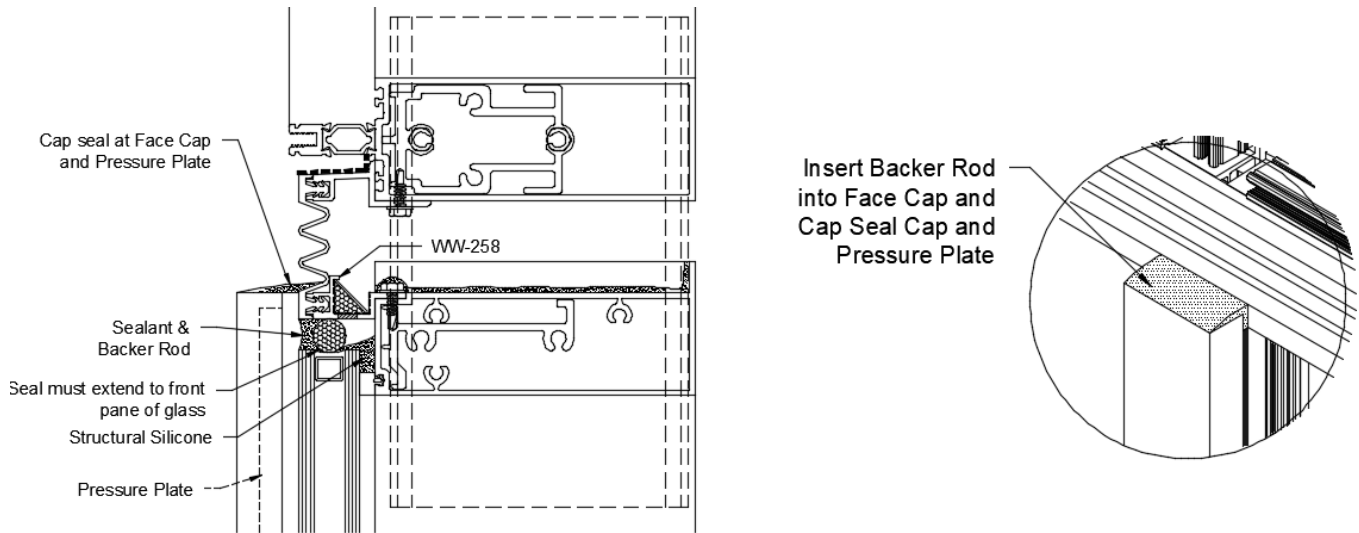

Figure 70: Face Cap / Pressure Plate Seal at Expansion Horizontal
- 23.14 Insert backer rod and seal the top side of the Face Cap at the Expansion Mullion. See *Figure 70*.